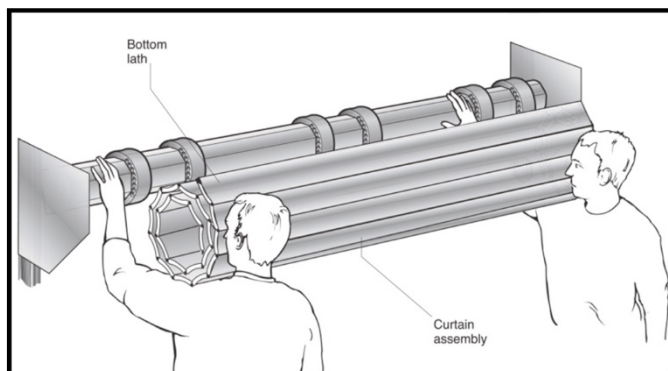

Fig 15
- 6.5 Using minimum 2 people carefully lift the curtain assembly up level with the axle. Practice has shown that it is best to place one hand on the axle, keeping that arm straight, and support the curtain roll on that shoulder as shown in (Fig 15).